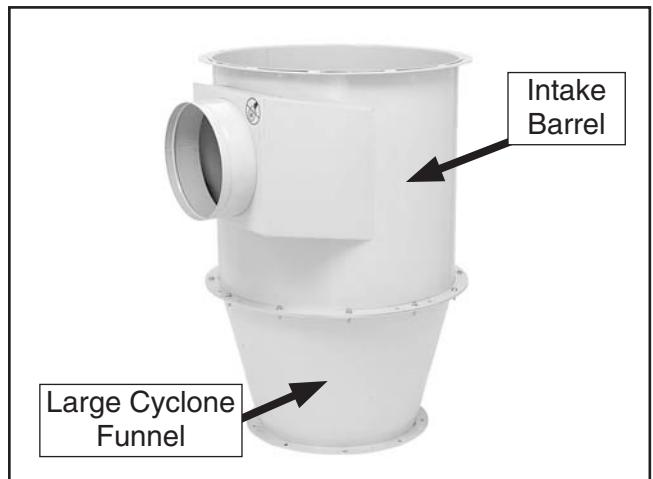

Figure 23. Intake barrel and large cyclone funnel.
- Connect the intake barrel and large cyclone funnel with (12) $5/16$ "-18 x $1\frac{1}{4}$ " hex bolts, (24) $5/16$ " flat washers, and (12) $5/16$ "-18 hex nuts in the mounting holes—excluding the left and right hole of the groups of three (see **Figure 23**).